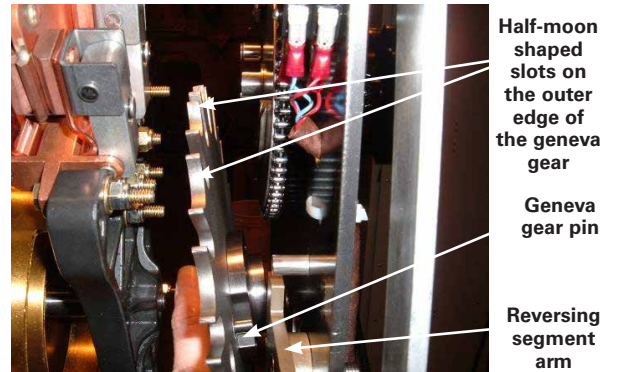
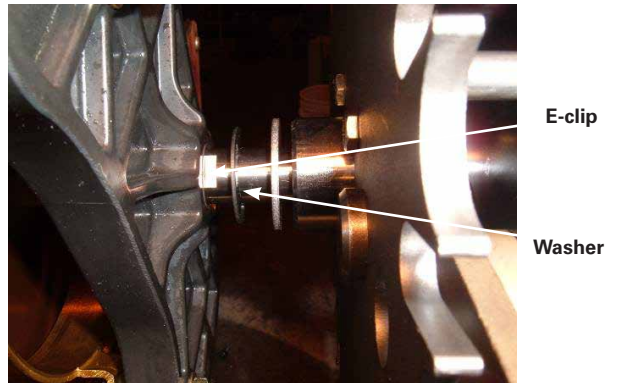
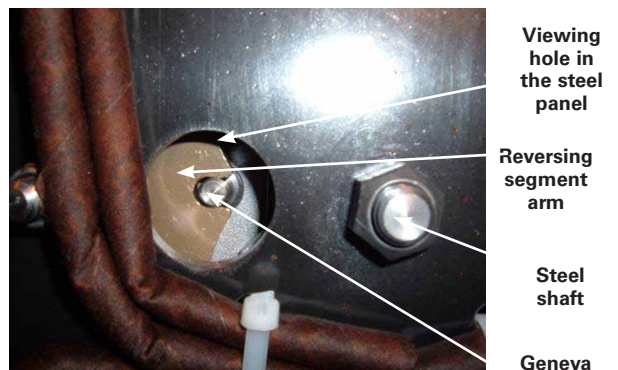

Figure 12.
Figure 13.
Figure 14.
- Position the geneva gear so the pin on the back of the geneva gear lines up with the slot in the reversing segment arm and the half-moon shaped groove on the outer edge of the geneva gear lines up with the half-moon shaped drive on the sprocket (see Figure 12). Push the main shaft into the center hole of the geneva gear until the shaft hits the metal panel. Push the E-clip into the E-clip slot on the main shaft (see Figure 13). Then align the main shaft through the metal panel. Secure the steel shaft to the steel panel using the nut removed in Step 7. Use a 5/8 inch open end wrench to hold the steel shaft while securing the nut on the threaded end of the shaft with a 3/4 inch socket wrench. Torque the nut to 180 to 400 lb-in. Insure the geneva pin is engaged with the reversing segment arm by checking the viewing hole in the steel panel (see Figure 14).